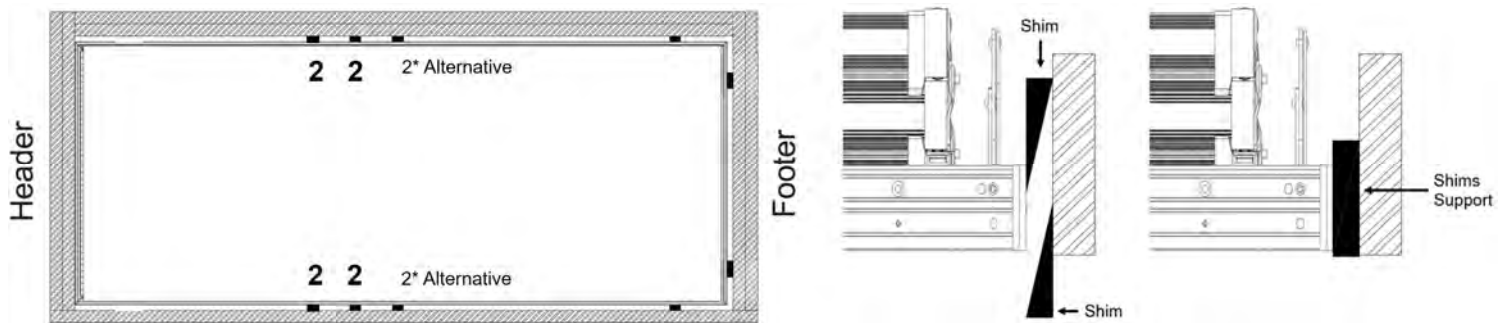
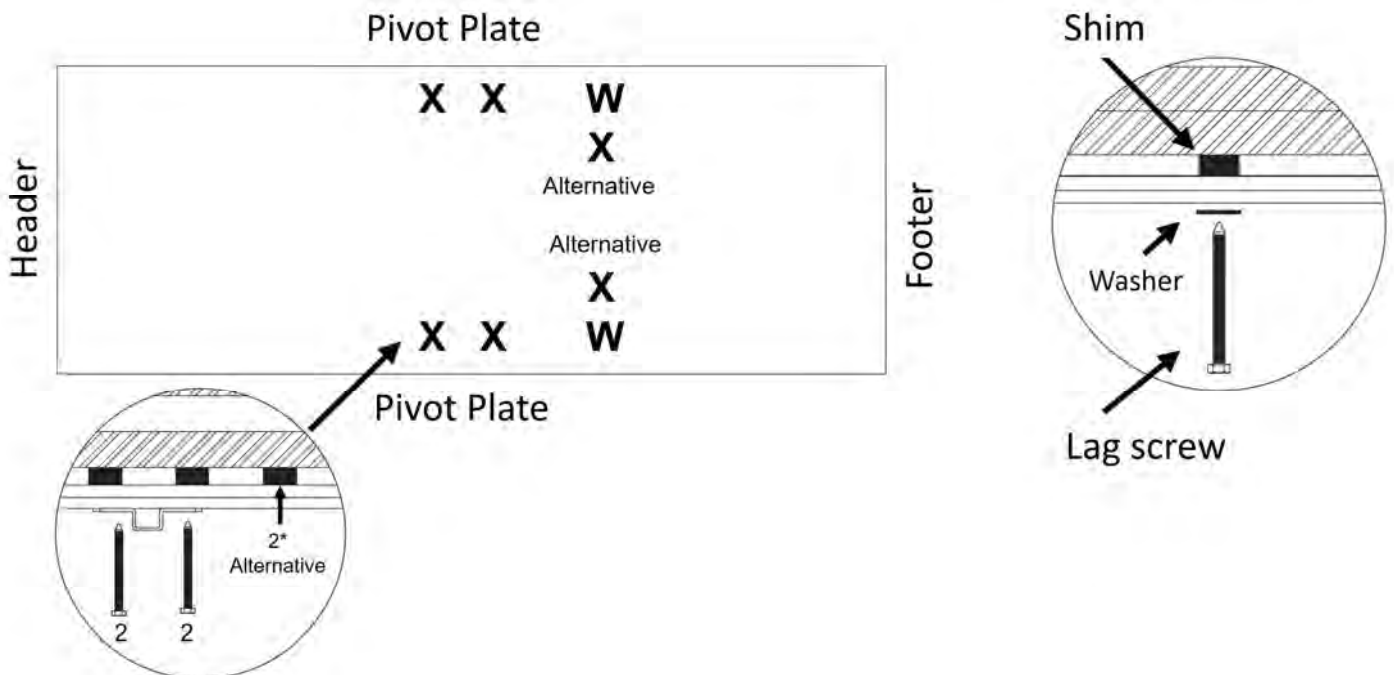

FIGURE 24 : SHIMMING SIDE FRAME
FIGURE 25 : SECURING SIDE FRAME RAILS
U. Installer #1 and #2: Position shims from above and below at the 4 pre-drilled pivot plate holes on each frame side rail at position 2 (See **Figure 24**). The shims should provide uniform support so there is no twisting or bowing of the aluminum frame. Drill 5/32" diameter by 3" deep pilot holes into the ceiling joists through the bushings at position 2. Install the 4 lag screws to secure the attic ladder (see **Figure 25**).